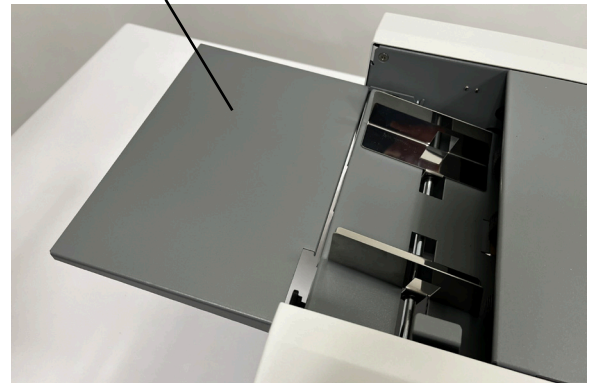

Fig. 2a
1. Lift the feed tray extension and lock into position under the alignment pins (Fig. 2a).